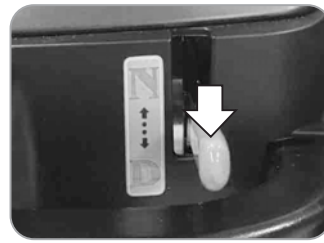

Figure 17
- When lever is in Drive (D) position, the scooter can be driven. Normal position is in D (Figure 17)